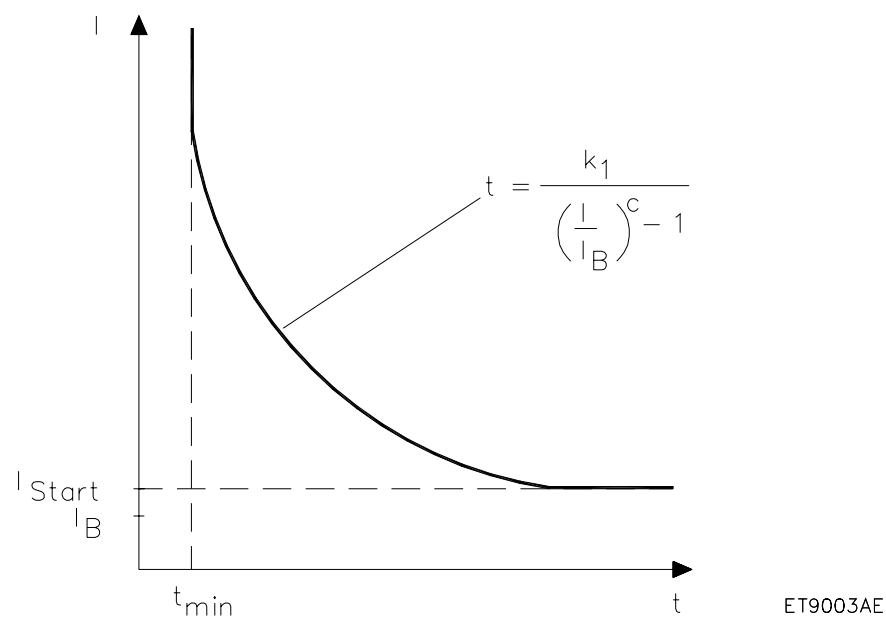

Fig. 3.5.3.1 Operating characteristic of the IDMT overcurrent function
- operating characteristics (see Fig. 3.5.3.1) according to British Standard 142: